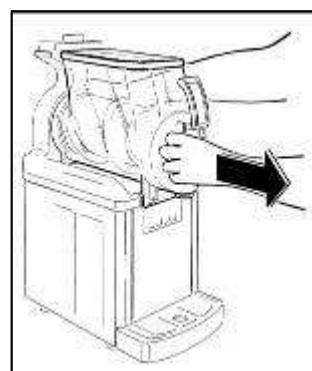

Рис. 30
- Pull the tank outward, as shown, to completely remove it from its seat (Рис.30).